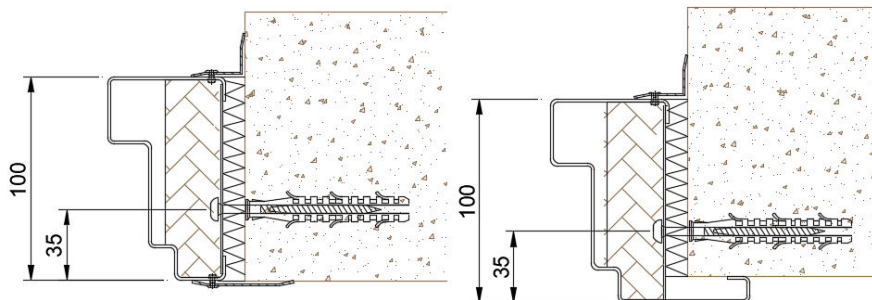

Figure 6 – Installation of the door into the structural opening SMU101/201; SMU102/202
Doubled according to Figure 6
- 16) Fill the gap between the frame and the wall according to **Table 1** and the descriptions in Figures 6, 7, 8 and 9.
- 17) Install the countersunk head caps of the fastener holes (unless required otherwise) and if there are cover strips, fasten them as shown in Figure 6.